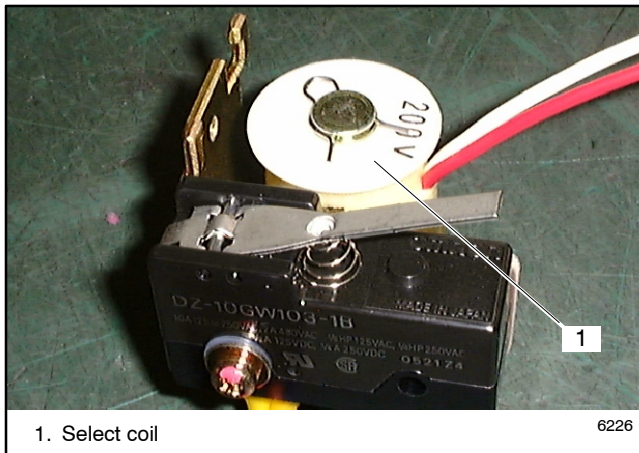

Figure 8-21 Select Coil
4. Replace the select coil. See Figure 8-21.